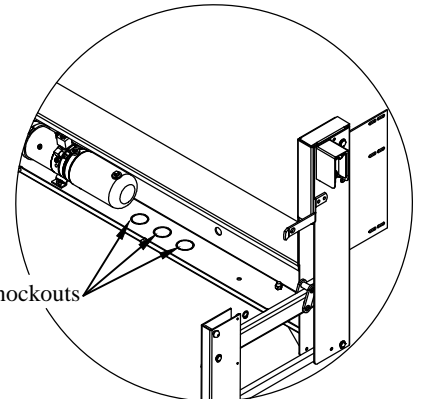

Figure 10: Knockout hole location.
2. **Remove** the 2-1/4" knockouts from the bottom of the mainframe using a screw driver and a pair of pliers (Figure 10).